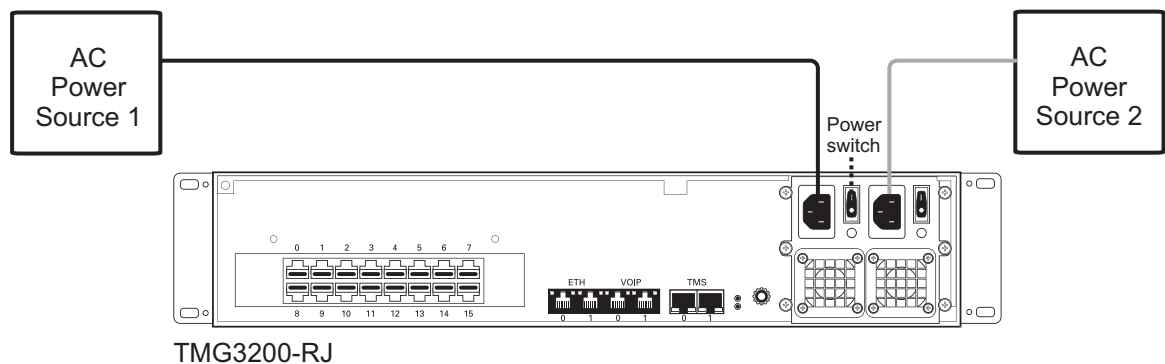

Figure 2.9 AC Power Connection
1. Connect an AC power cable between the AC connector of the TMG3200 and an AC supply. See figure 2.9 on page 24.
Note If the TMG3200 features a second power supply and it is not connected to an AC power source, press the green button located at the rear of the unit to disable the audible alarm. See figure 2.9 on page 24.